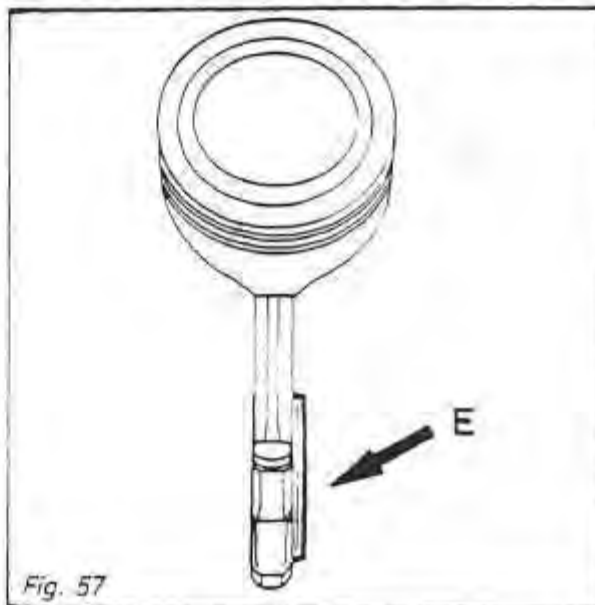

Fig. 57
The connecting rod big-ends are offset and have an extended flange (E) on one side (counter balanced side) in order that a pair of connecting rods can share a common crank pin. (Fig. 57)